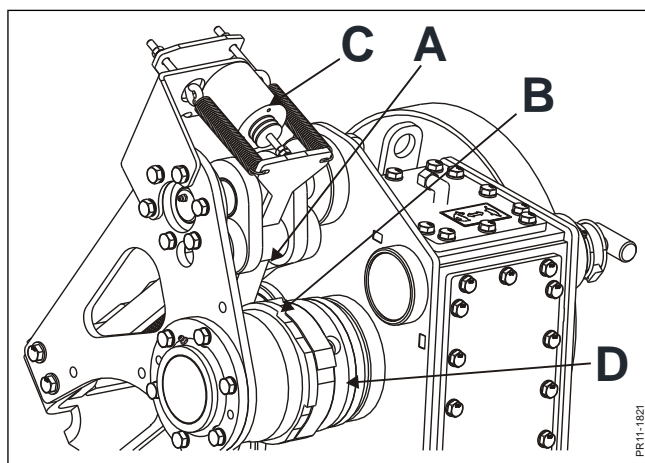

Fig. 5-3
**Fig. 5-3** When the metal has been detected, a signal will be sent which causes the voltage on the magnetic coil **C** to be disconnected. This then activates pawl **A**, which then engages with the ratchet wheel **B**, which blocks the feed intake and triggers the connection **D**. The reverse function simultaneously goes to neutral position.